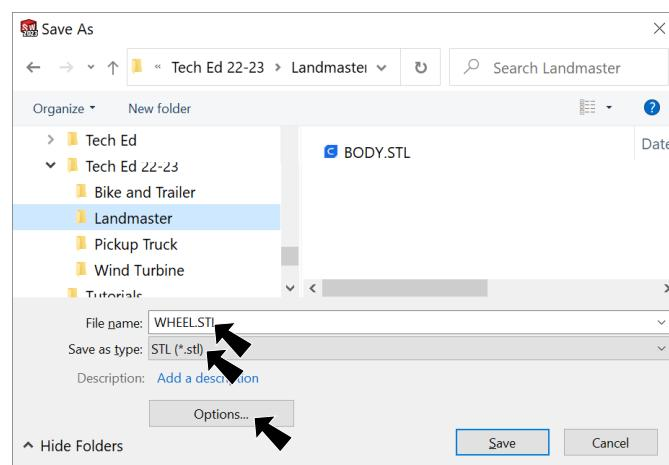

Fig. 9
Step 3. In the Save As dialog box, Fig. 9.